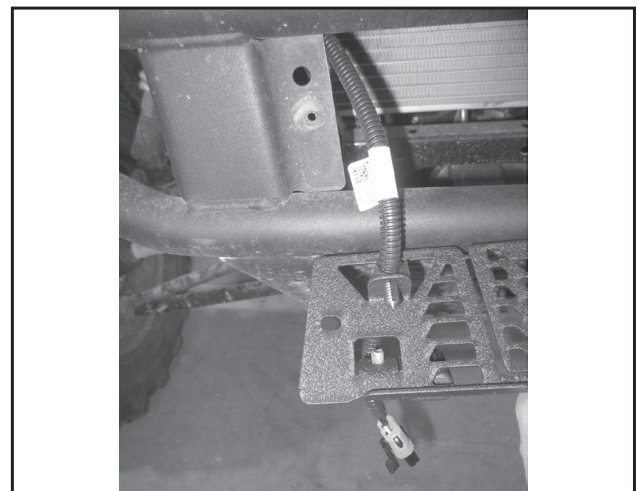

Figure 18
- c. From the front of the unit the harness plug should be routed through the right hand side of the bumper opening and pass through the right hand side of the P/N 5257056 grille insert. The locating clip on the P/N 2412369 control harness (#3) should be secured into the locating tab on the grille as shown in *figure 18*.